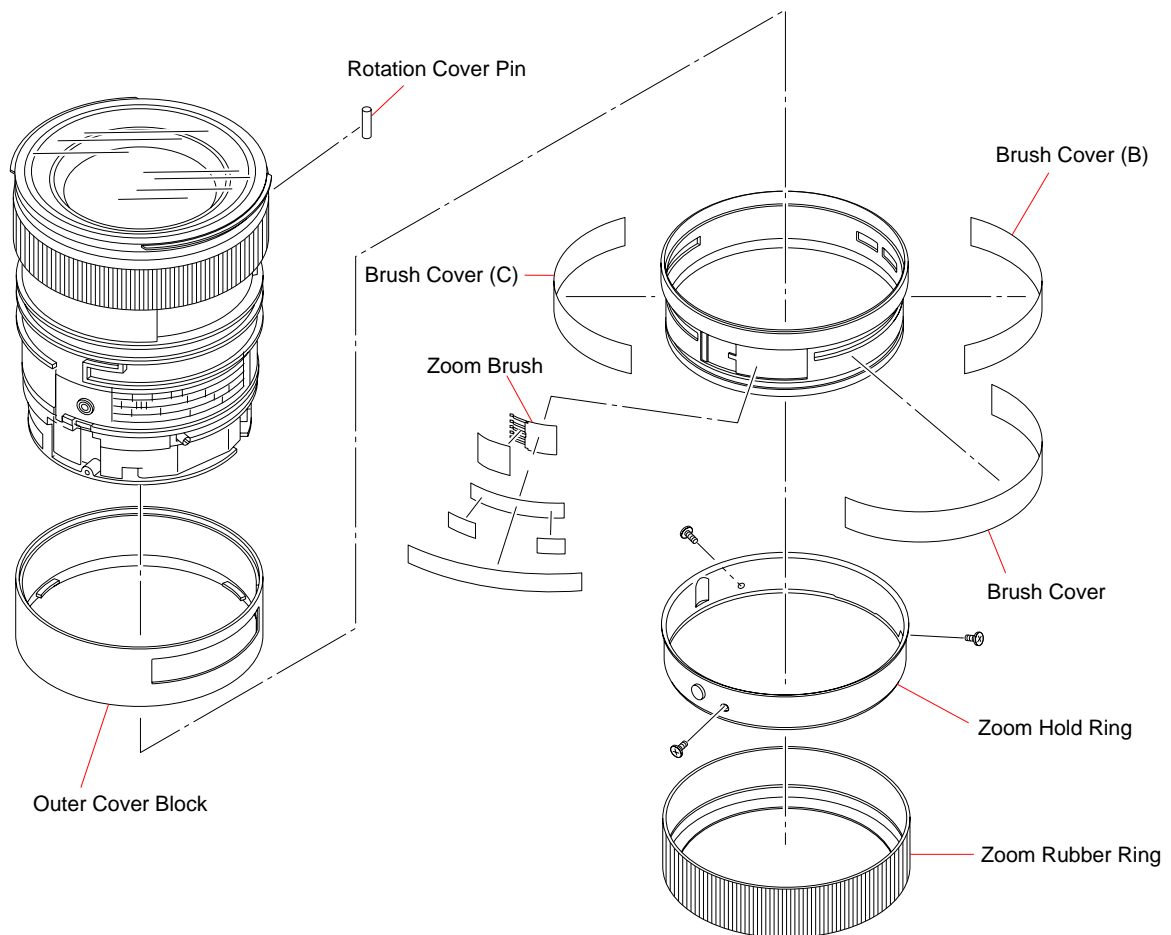

Fig.4-6-1
- 1) Remove parts indicated in Fig.4-6-1 from the lens unit.